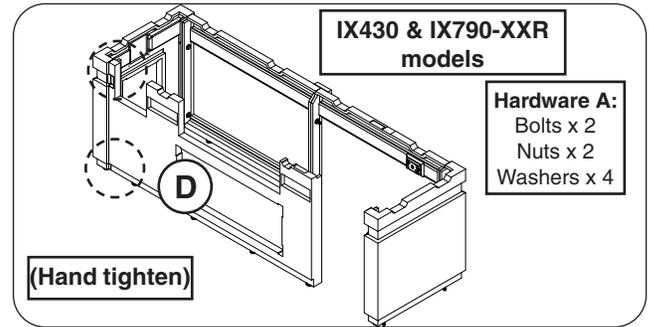

Fig. 10-1 Assemble front wall
1. Orient the front wall (D) and repeat the hardware installation process (hardware kit A). Hand tighten only. See Fig. 10-1.